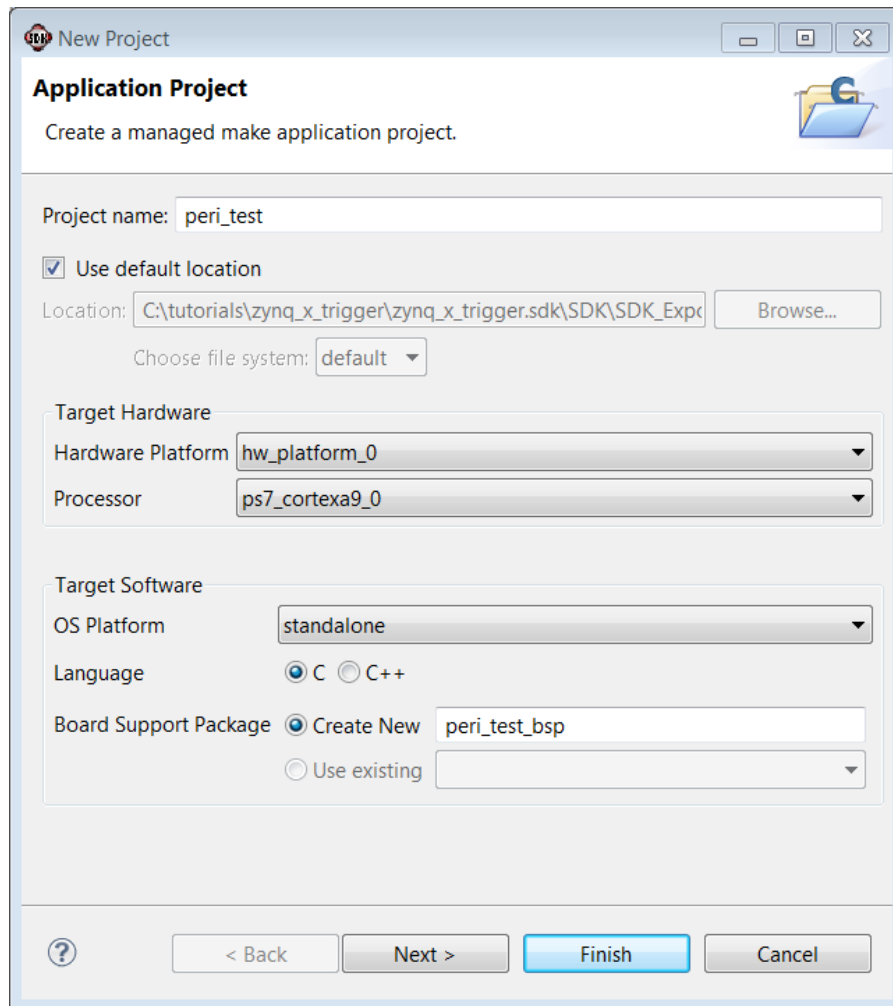

Figure 72: Name the Application Project
2. In the **New Project** dialog box, specify the name for your project. For this tutorial, use the name **peri_test** (FIGURE 72).